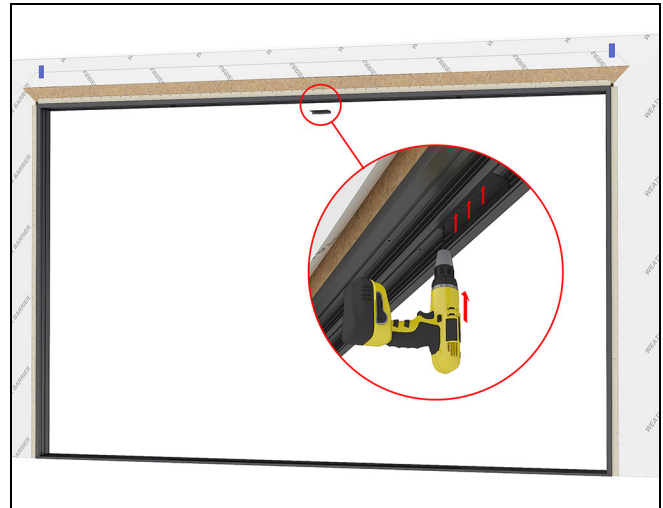
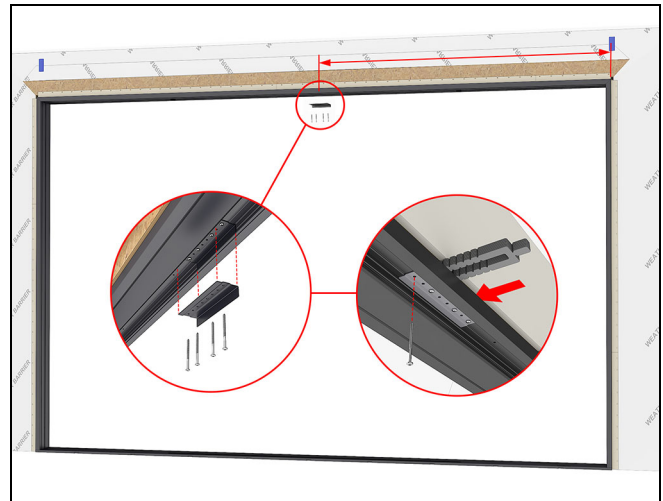

Figure 159 XOOX
Figure 160 XOOX
2. Using the bracket as a template, pre-drill a 3/16" hole at each outside hole and at least once more in the middle. See Figure 159 and Figure 160.
3. Fasten through the bracket into the head jamb with #10 x 3" installation screws at each pre-drilled location. Shim above the head jamb at the bracket as needed. Be careful not to bow the headjamb. See Figure 160